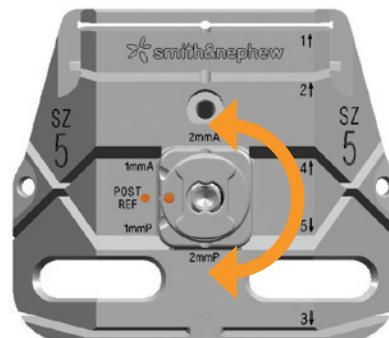

Figure 20
- 2 Use the Angel Wing to check the location of the anterior cutting slot. Make any necessary anterior/posterior adjustments (Figure 20) to avoid overstuffed the patella femoral joint, overstuffed the flexion space or femoral notching.